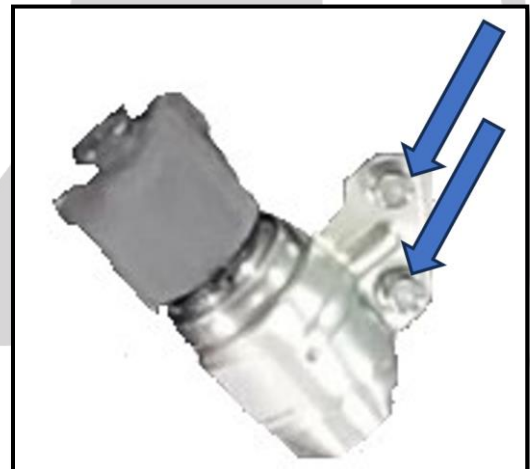

Figure 26: Solenoid Mounting Bolt location
3. Person 2: With the plunger now extended. Loosen the two mounting bolts on the side of the solenoid. As shown in Figure 26.